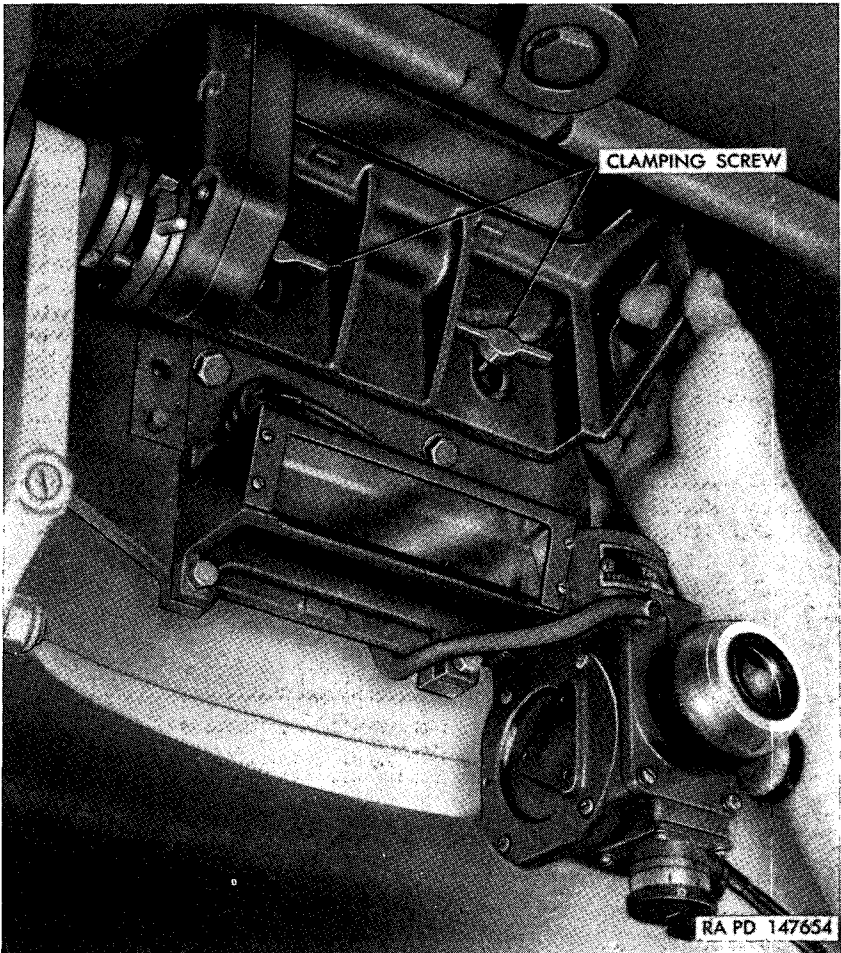

Figure 64. Installing periscope T35 head assembly.
- (3) Loosen the two clamping screws (fig. 64) on the periscope mounts.
- (4) With the prism side facing forward, insert a head assembly up into the commander's periscope mount until the brackets on the head assembly are positioned under the clamping screws (fig. 64). Holding the head assembly in position on